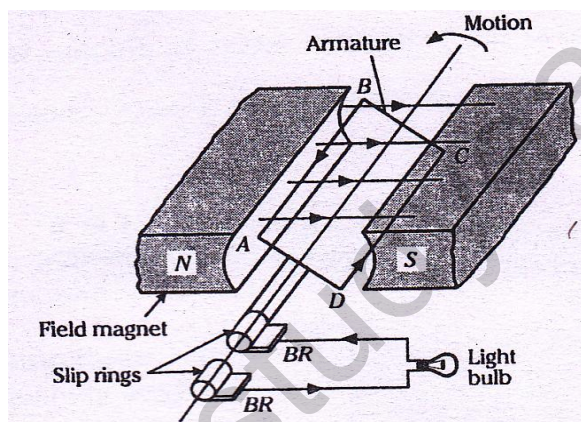

Fig. 3.1
- By rotating a coil in a magnetic field as shown in Fig.3.1.